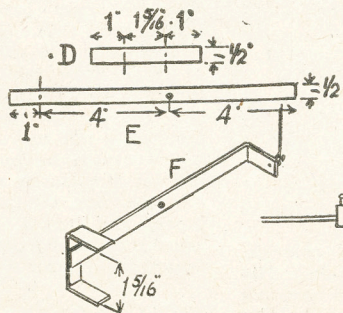

Fig. 2—Details of metal rocker
A rocker (C) is now required; this is set in motion by the rotary windvane and actuates the figure's arm. The rocker is composed of two pieces of stout brass rod,  $\frac{1}{2}$ in. wide, illustrated at (D) and (E) in Fig. 2. Cut these to length. Bend (D) across the dotted lines to make the shape shown at (F). Part (E) has also the short piece at the